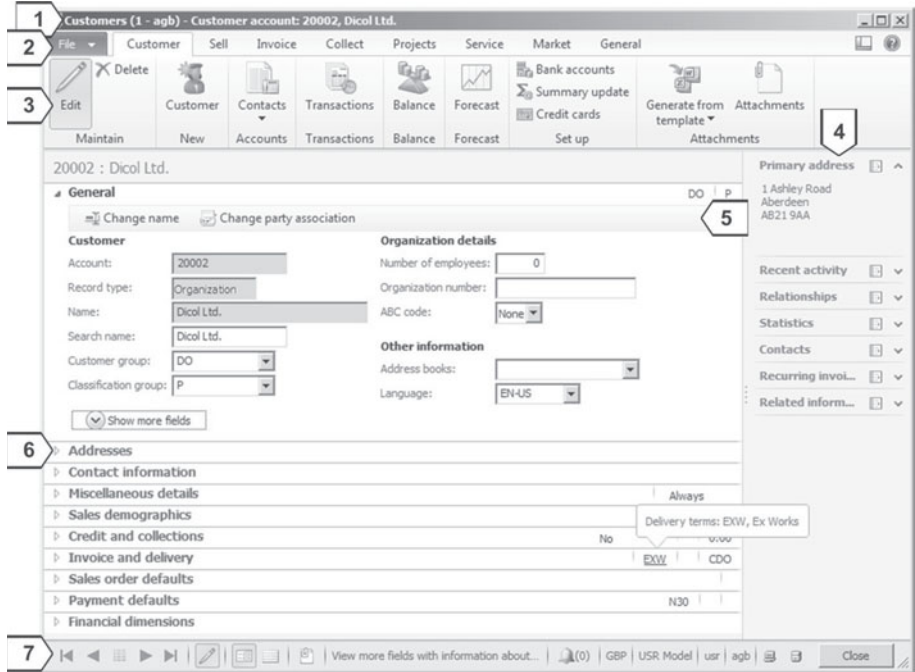

Figure 2-7: Elements of a detail form (customer detail form as an example)
Detail forms got a common structure, which is similar to list pages. Some elements and functions depend on the particular form, however. Figure 2-7 shows the customer detail form (accessible through the list page *Accounts receivable> Common> Customers> All customers*) as an example for the structure of detail forms.
- Title bar [1] – Shows the form name, the current company account (if chosen in the users options) and the identification of the selected line. For illustration, the example in Figure 2-7 shows the number and name of customer “20002” in the company account “AGB”.
- Action pane strips [5] – Provides access to actions in case there are only a few options available. On the one hand, you may find action pane strips on fast tabs as shown in Figure 2-7, and on the other hand they may replace the full action pane on the top of forms, which only contain a few actions – e.g. in the customer groups form (*Accounts receivable> Setup> Customers> Customer groups*).
- Fast tabs [6] – Groups fields according to their functional area. In comparison to regular tabs, fast tabs additionally show summary fields displaying core data directly on the tab. In Figure 2-7, the fast tab *Invoice and delivery* for example shows the delivery terms “EXW”. You may expand fast tabs by clicking the particular tab. A right-hand click on a tab provides the option to expand or collapse all tabs at the same time.
- Status bar [7] – Shows additional options to move between records (depending on the status bar settings in your user options) in comparison to the status bar in the workspace. Apart from the buttons *Ctrl+PgUp* , *Ctrl+Home* , *Ctrl+PgDn* , *Ctrl+End*  to change the selected record (e.g. moving to another customer in Figure 2-7), you may also choose to view a list of records by clicking the button *Grid View* .